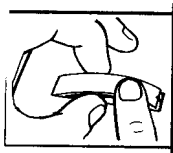

FIGURE 2.
- 2.02 To install the name plate, hold the name plate by the outside edges near the center and insert one end in the housing recess. Bend the opposite end into place and release the center hold. See Figure 2.